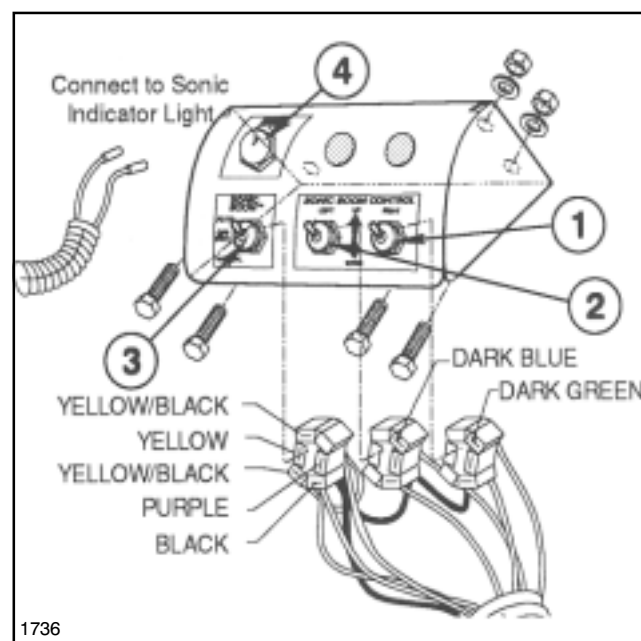

FIG. 22
11. Install Switch Bracket to dash using four (4) 1/4 NC x 5/8" hex hd cap screws, lock washers, and hex nuts as shown in FIG. 22.
12. Install two (2) Boom Switches (included in Boom Lift Kit), Sonic Boom™ Mode Switch, Sonic Boom™ Indicator Light, and Decals. Connect Wiring Harness as shown in FIG. 22, page 9.